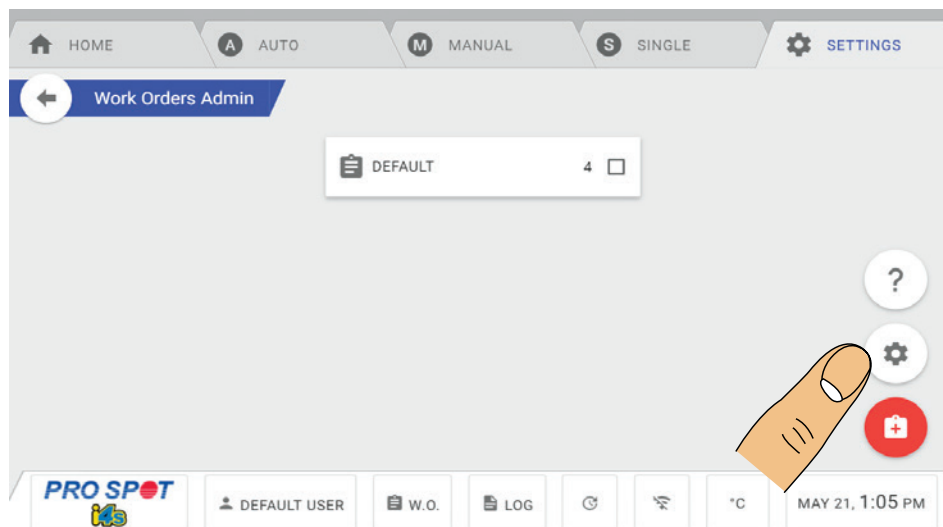

Figure 4.29
1. Navigate to the Work Orders Admin Menu (Figure 4.29).